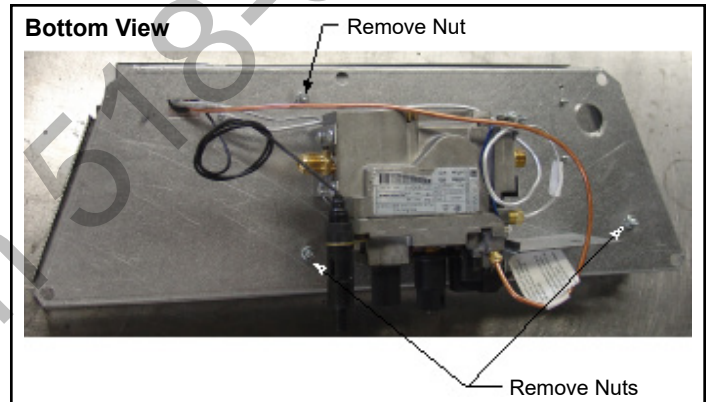

Figure 81 - Remove three (3) nuts securing ember bed in place.
- Remove three (3) 3/8" nuts on bottom side of burner pan. (Figure 81)